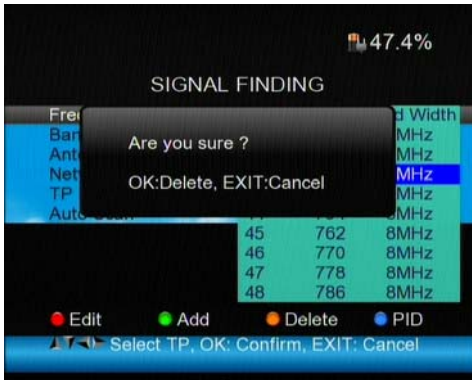

Figure11. Delete Frequency Confirm Message
- (5) Delete frequency: Press <Left/ Right> button to select option, and then press <YELLOW> button, you will see the confirm message, see Figure 11. Press <OK/EXIT> button to delete or cancel this operation.